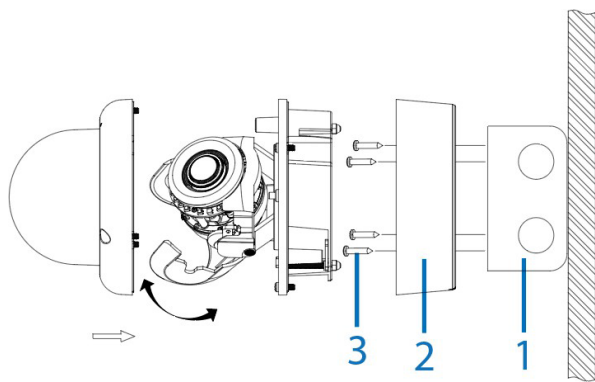

Figure 9
3. Hold the camera bottom case (2) (Figure 9) up to the junction box (1) (Figure 9) and align the four holes on the camera bottom case with the four holes on the junction box